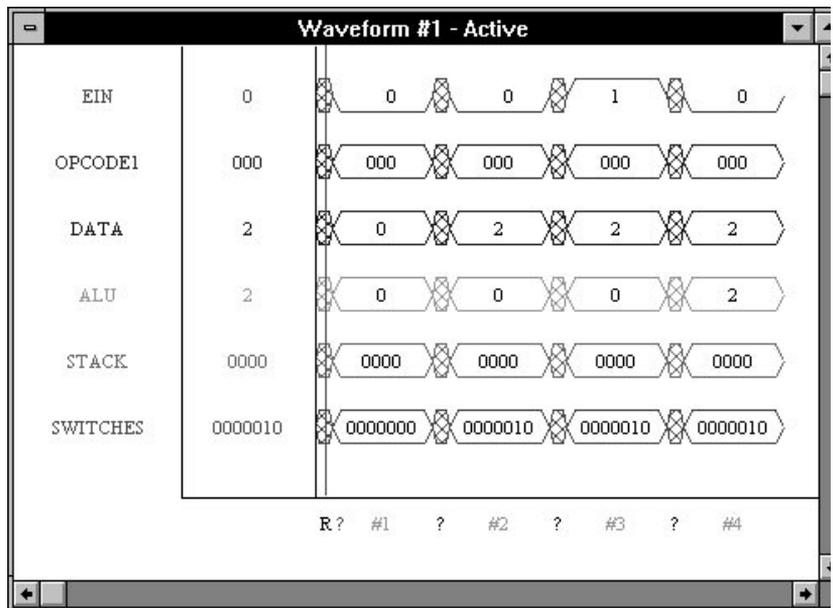

Figure 10-15 Capturing the Device States for the Add Operation
The state corresponds to snapshot #1 in Figure 10-15.
Note: Your results may vary from those in Figure 10-15 if your target FPGA is not reset prior to starting this example.
The state corresponds to snapshot #2 in Figure 10-15. (State numbers are listed beneath the horizontal axis on the waveform window.)
The state corresponds to snapshot #3 in Figure 10-15. The EIN signal is High.
9. The state corresponds to snapshot #4 in Figure 10-15.